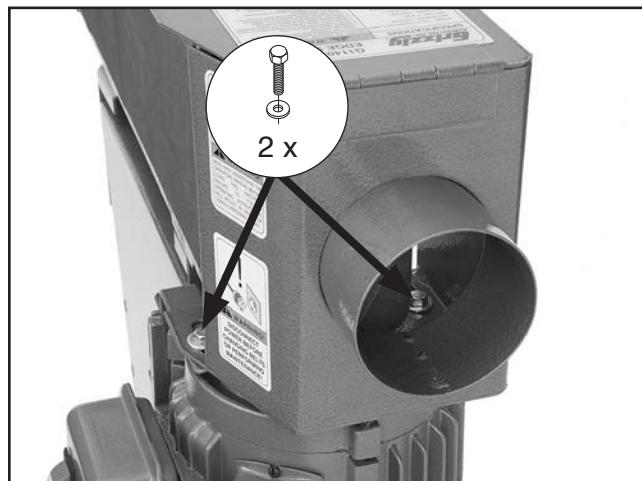

Figure 12. Dust hood installed.
9. Position the dust hood approximately 1" away from the main roller and fasten to the sander using the two pre-installed $\frac{5}{16}$ "-18 hex bolts and flat washers, as shown in **Figure 12**.